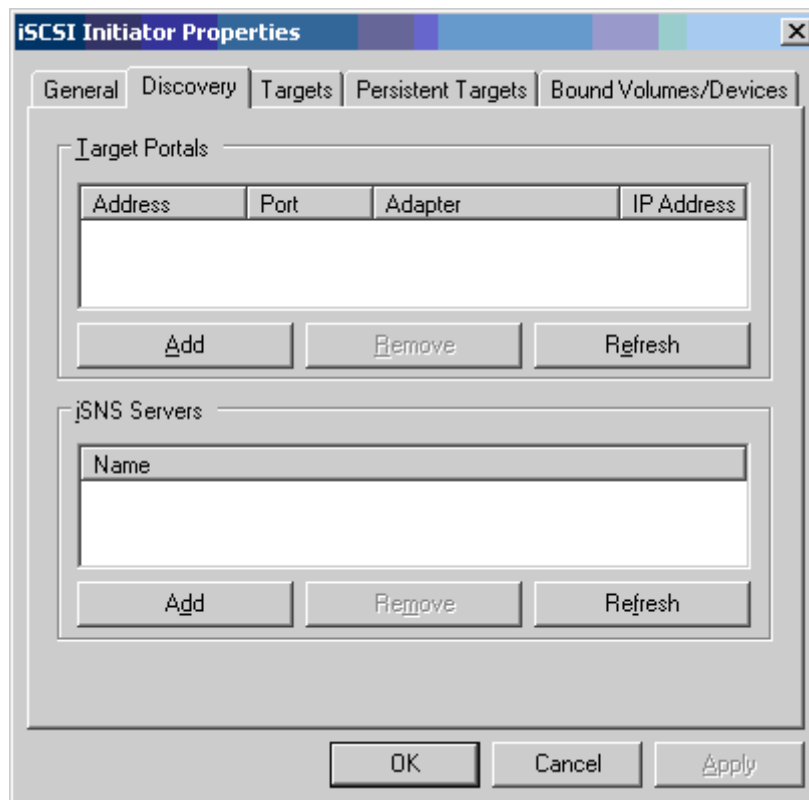

Figure 10-9. iSCSI Initiator Properties: Discovery Page
4. On the iSCSI Initiator Properties (Figure 10-9), click the **Discovery** tab, and then under **Target Portals**, click **Add**.